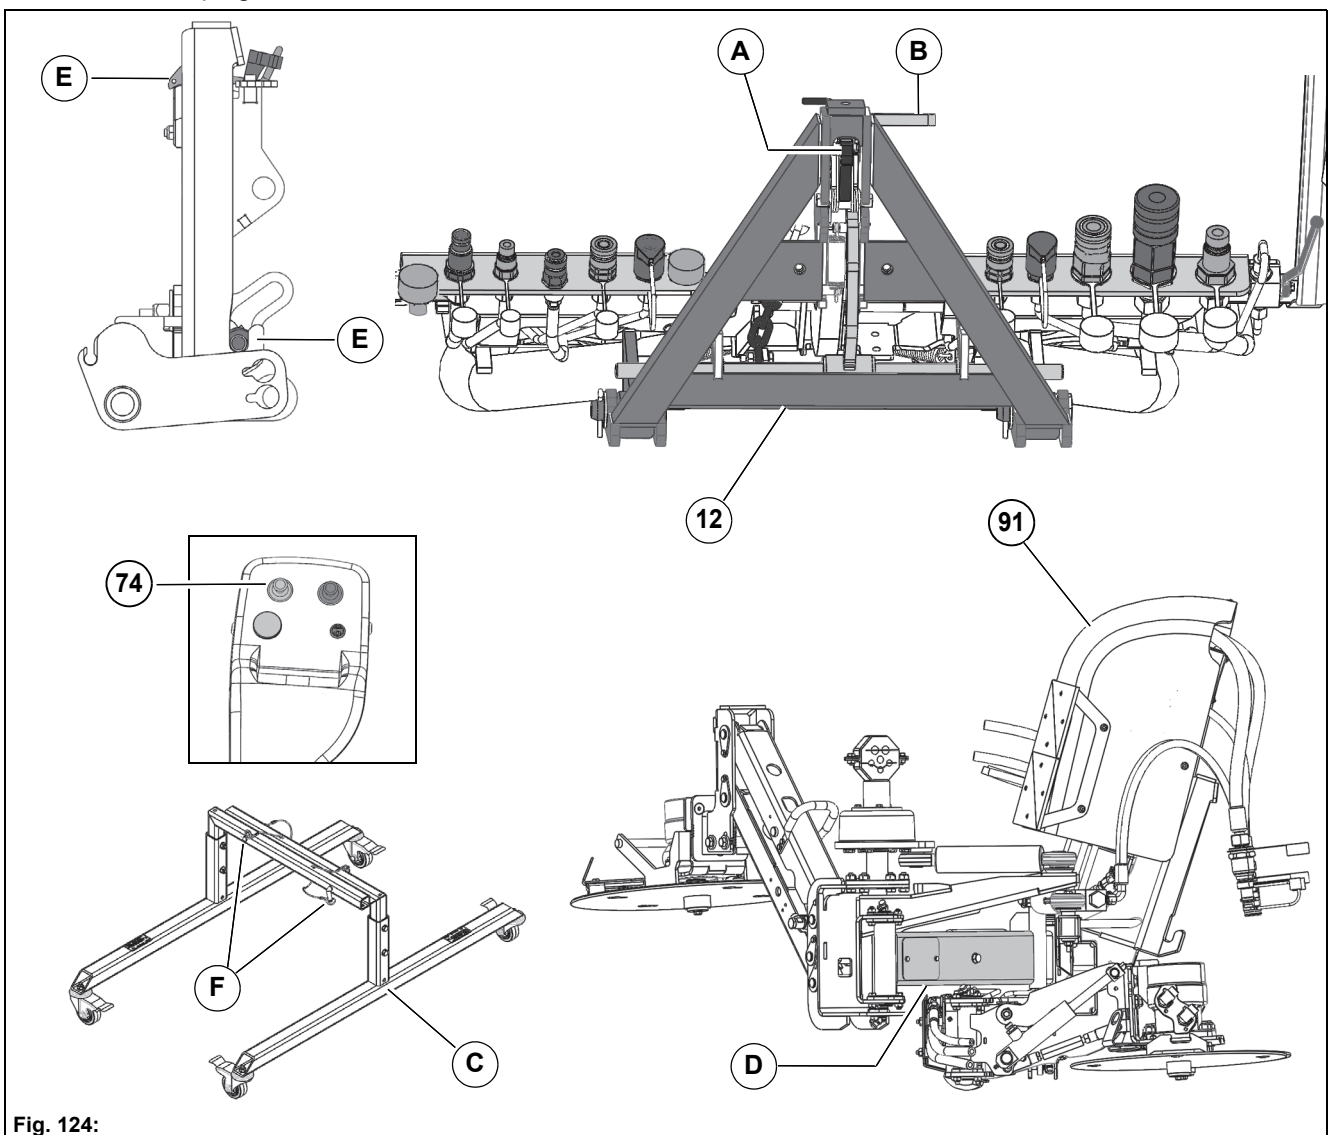

Fig. 124:
1. Unlock the locking hook **Fig. 124-A** and locking rod **Fig. 124-B** on the front tool carrier **Fig. 124-12**. Lower the front tool carrier with the joystick **Fig. 124-74**.
2. With the trolley **Fig. 124-C** (optional), align the sweeping unit **Fig. 124-91** centrally and in alignment with the front tool carrier.
3. With an adjustable upper link (optional), set the standard length, see page 77 (Set the arm **Fig. 124-D** of the sweeping unit parallel to the floor).
5. Lock the sweeping unit with the locking hook and locking rod. Check the backlash on the locking hook, see **Fig. 124-E**, adjust if necessary with elongated holes.
6. Disassemble the bolts **Fig. 124-F** of the trolley and pull the trolley out from the sweeping unit.